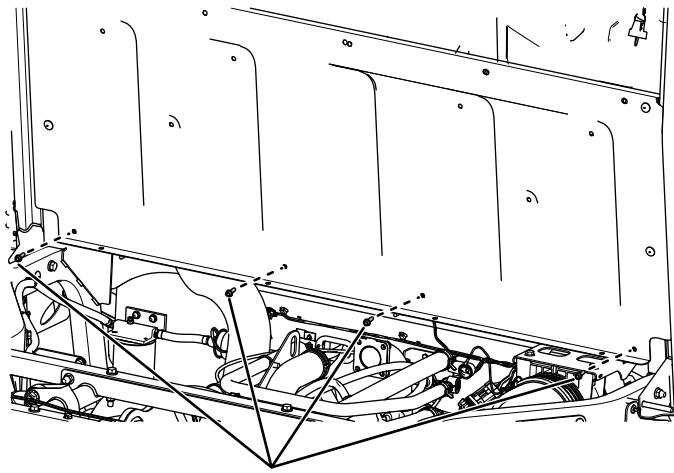

Figure 52
19. Secure a seat panel to the rear frame crosslink channel using 4 hex-washer head bolts (1/4 x 3/4 inch) as shown in Figure 52.